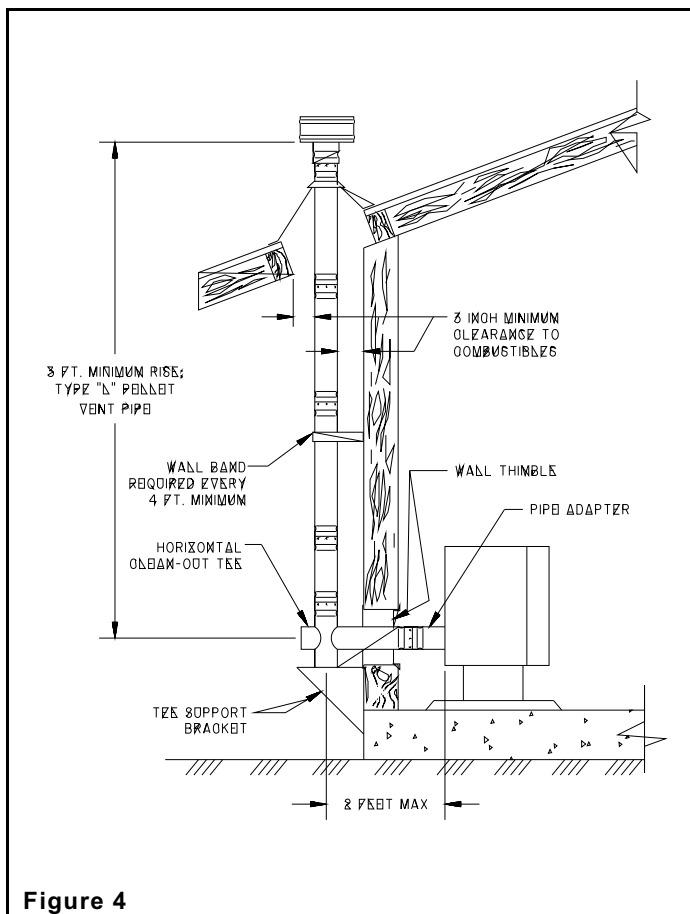

Figure 4
1. When exiting through the wall with your type L Pellet vent pipe, you may go straight out through a wall thimble. You must connect a pellet vent tee at this point and extend the vent pipe at least 3' (three feet) vertically outside to provide good draft and allow the gases to exit. The tee must have a clean out cap for inspection and regular cleaning (**Figure 4**). Horizontal runs must be limited to 2' (two feet). A wall band is required for every 4' (four feet) minimum on a vertical run at an exterior wall.